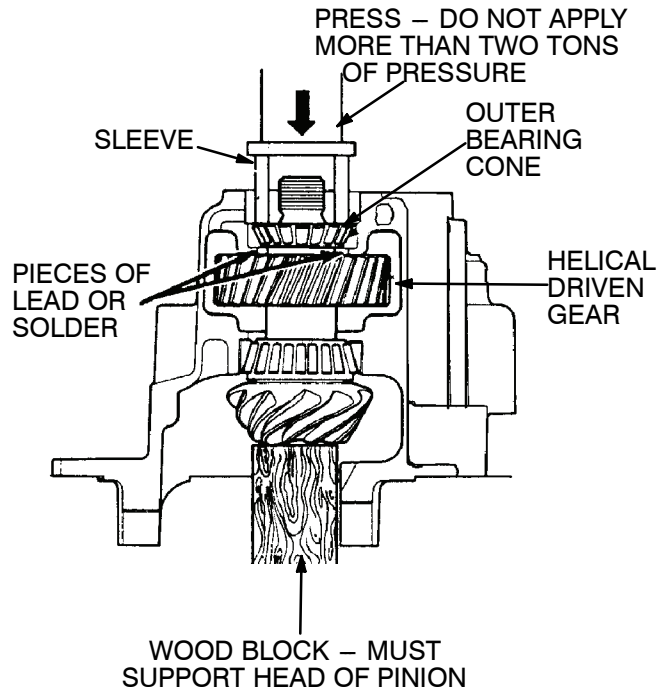

Figure 56.
- (1) Cut two lengths of bar lead or solder approximately 9/16" long and 5/8" thick. The lead pieces will be used as gauge blocks in determining thickness of spacer required between the helical driven gear and the outer bearing.
- (2) Position both pieces of lead or solder on top of the helical driven gear 180° apart. Position outer bearing cone over pinion shaft into the cup. Use a suitable sleeve on top of the outer bearing cone. Refer to Figure 56.
- (3) Remove the supports from the bottom of the carrier. Use a press to apply 2 tons of force to the outer bearing cone. The force of the press compresses the lead or solder pieces to the correct size. DO NOT APPLY MORE THAN 2 TONS OF FORCE. See Figure 56.
- (4) Remove block from under pinion head and press pinion shaft down through outer bearing cone only. Do not press shaft through helical gear.
- (5) Remove outer bearing cone and both pieces of lead or solder from pinion shaft.
- (6) Measure thickness of compressed pieces of lead with a micrometer and calculate average value of both pieces. Add .004" to average value to determine the thickness required for variable gear spacer to obtain the proper pinion gearing pre-load.